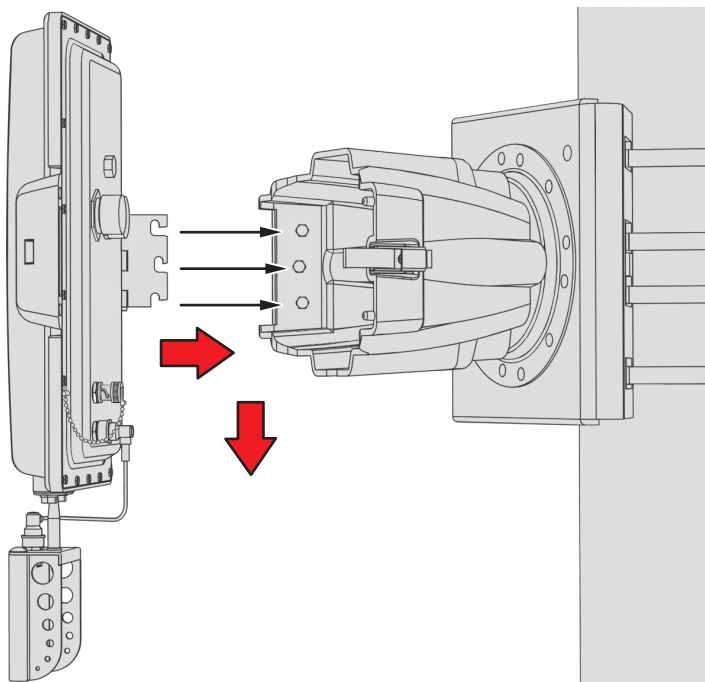

Figure 16. Attaching the EW5001 to the J-Box
8. Hang the hinge of the EW5001 onto the hinge bolts in the J-box (refer to Figure 16).